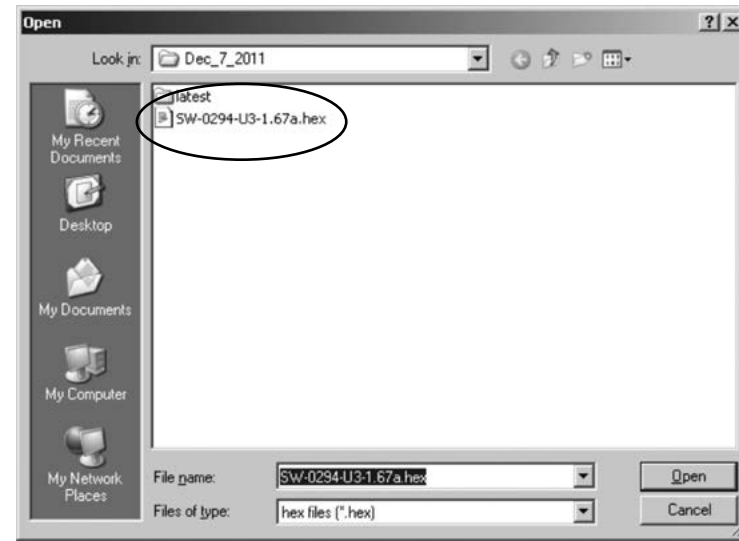

Figure 15.4 - Select the .hex file
- C. From the **Open** screen, select the appropriate firmware upgrade file ending in “.hex,” which in this example is “SW-0294-U3-1.67a.hex. (Figure 15.4)